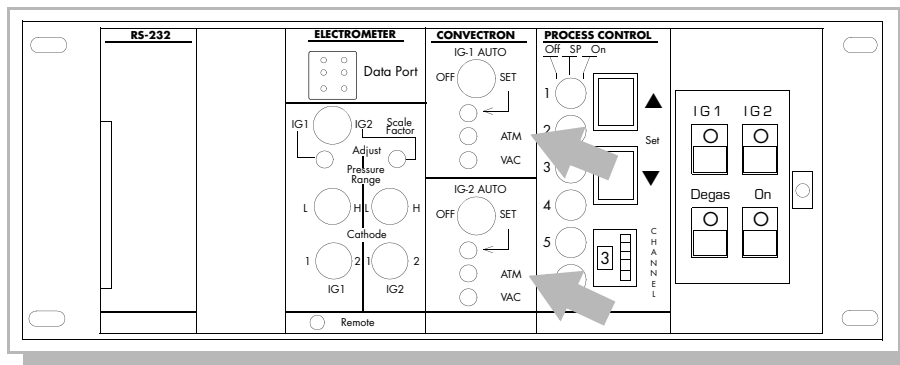

Figure 4-17 Control Unit Front Panel (with Door Open) Showing Convector Gauge Zero and Atmospheric Adjustments.
2. With power on and at vacuum less than 1×10^{-4} Torr for at least 15 minutes, adjust VAC for gauge A (see Figure 4-17) until display A indicates 0.0 0 Torr/mbar or 0.0 0 Pa, not 1.0 -4, 1.0 -2, or 0.0 -0. A display of 0.0-0 indicates the gauge is set below 0.00.